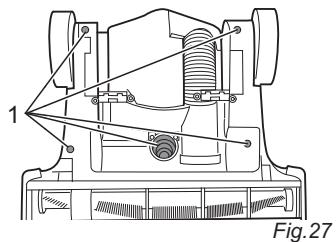

Fig.27
5. Unscrew the 5 fastening screws (Fig. 27/1) on the upper brushing foot cover (Fig. 28/1).